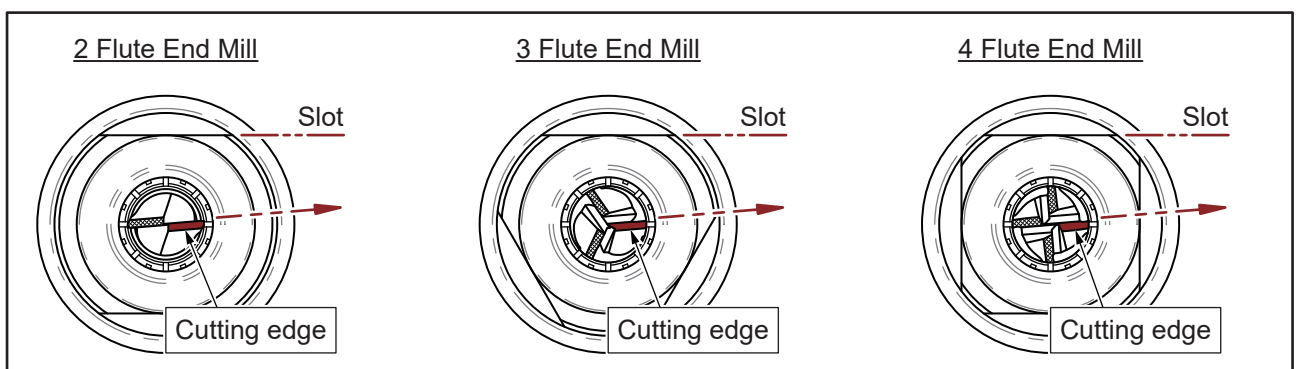

Fig. 8-3
3. Gently turn the chuck set counterclockwise and take it out, make sure the end mill's cutting edge is angled towards the slot of the clamping nut (Fig. 8-3).